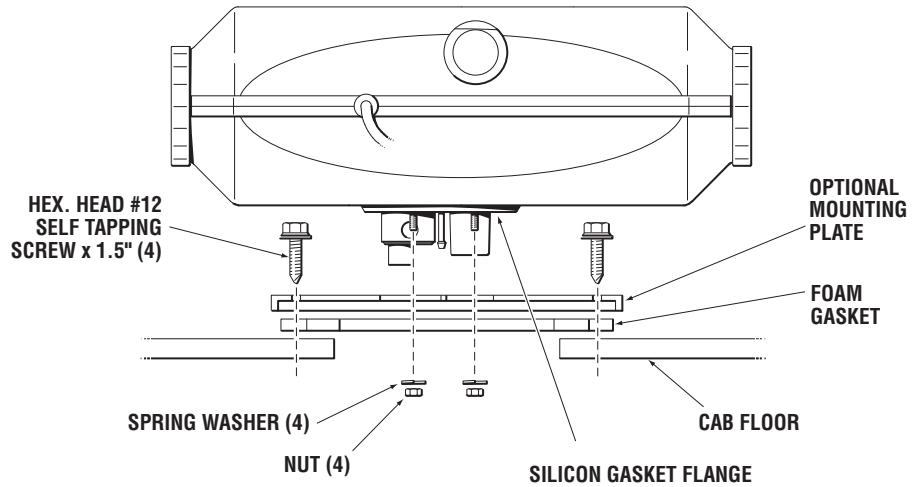

Figure 7. Optional Mounting Plate.
5. Secure the heater to the mounting plate using the supplied hardware (refer to figure 7).